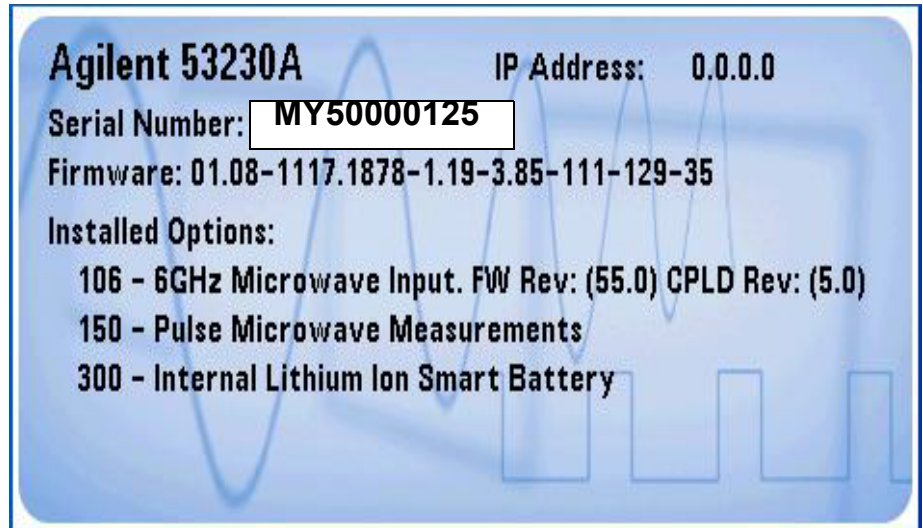

Figure 2-4. Information Screen
- An information screen (Figure 2-4) is displayed that contains the following items: